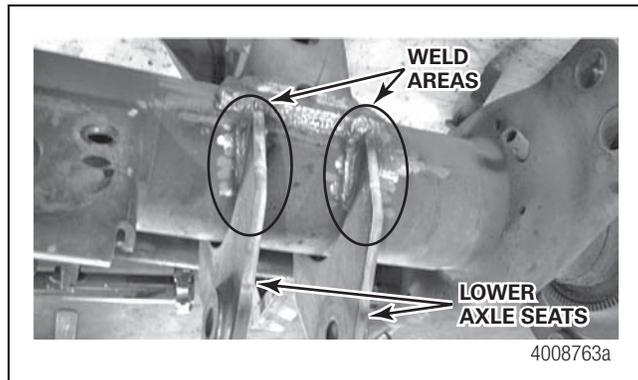

Figure 1
- A. Check that there are a total of four welds per axle seat side (two lower axle seats welded on each side). Figure 1.